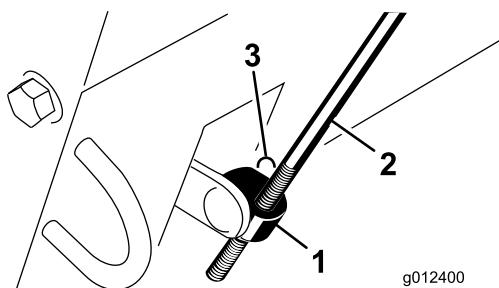

Figure 6
6. Insert the rod fitting onto the shifter bell crank shaft and secure with a washer and a hairpin cotter (Figure 6).